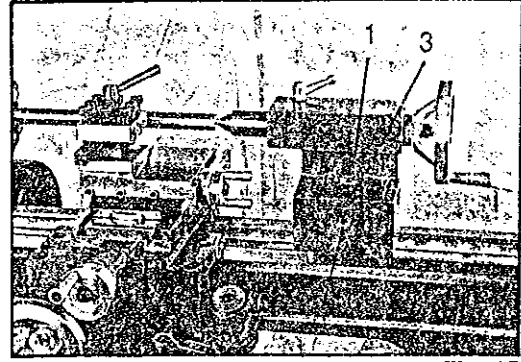

Fig. 17
Work to a side angle of 5° can be turned by off-setting the tailstock. The angle depends on the length of the workpiece. (Fig. 17)
To off-set the tailstock, loosen locking screw (1, Fig. 17). Loosen the front adjusting screw (2) and take up the same amount by tightening the rear adjusting screw (3) until the desired taper has been reached. Tighten the front screw to lock the tailstock in position. The workpiece must be held between to centers and driven by a face plate and driver dog.